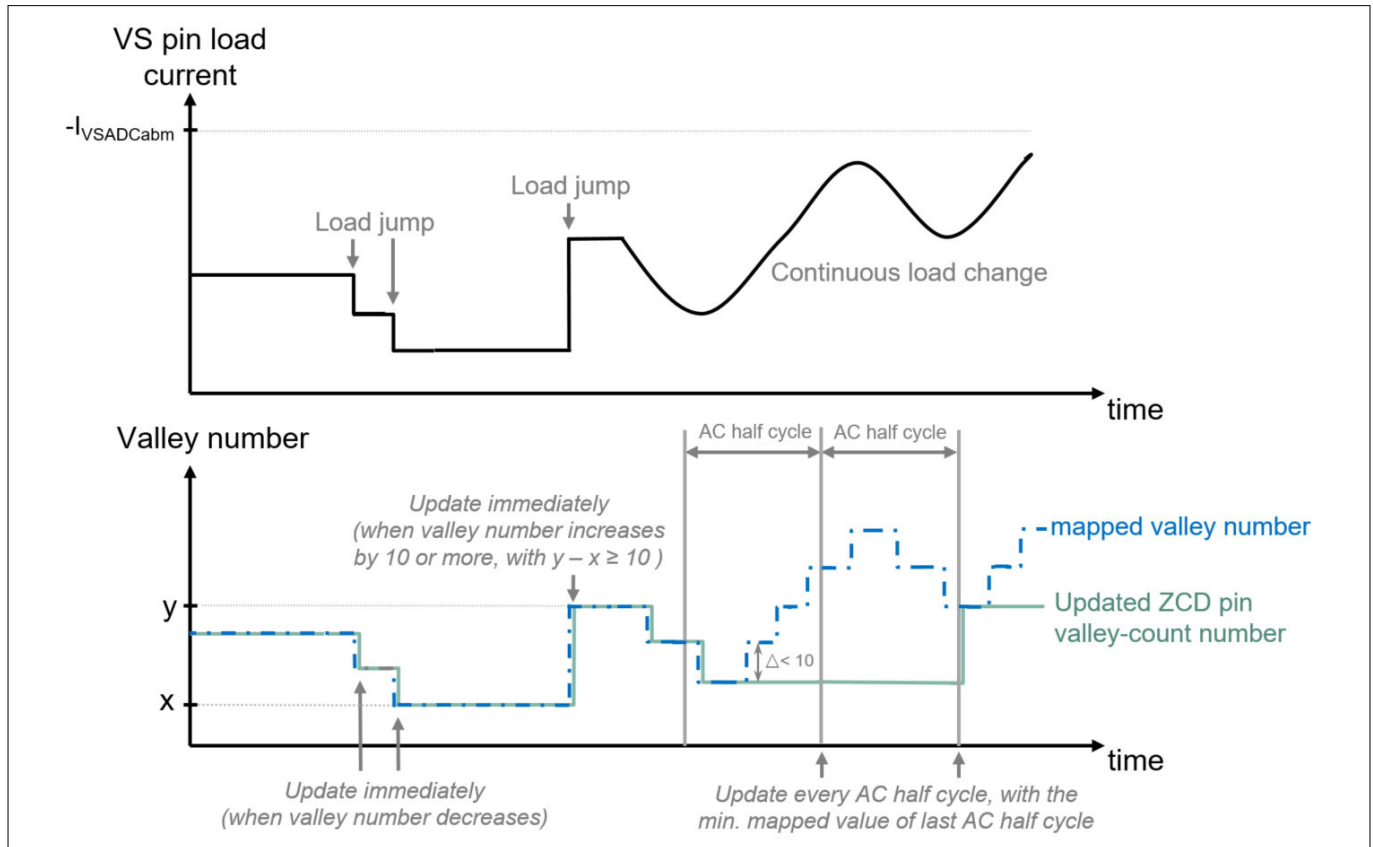

Figure 16 Illustrative example of the QRM valley selection hysteresis mechanism
1. To minimize the multiple valley changes within one AC half cycle, ICL8820S updates the ZCD valley-count number once every AC half cycle, based on the lowest mapped valley number from the last AC half cycle, as shown in Figure 16. During each AC half cycle, the controller adjusts the on-time to stay in the selected valley number. In this way, the number of valley jumps is limited to a minimum.
happens immediately. Otherwise, the change happens only at the start of the next AC half cycle, as shown in Figure 16.